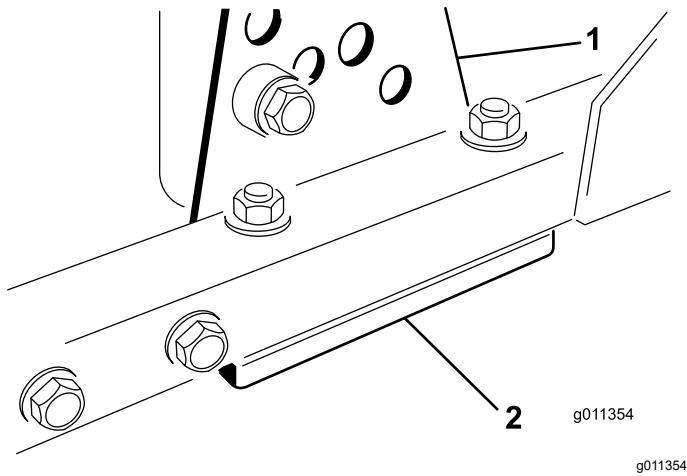

Figure 128
- Remove the height-of-cut bracket, (front, left, or right) from the cutting-unit frame (Figure 128).
- Adjust 1.5 mm (0.060 inch) shims and/or 0.7 mm (0.030 inch) shims between the cutting-unit frame and bracket to achieve the desired height setting (Figure 128).